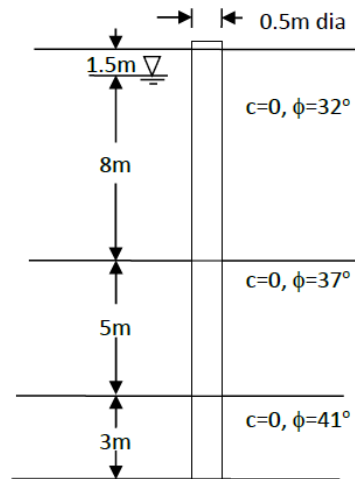

Figure 1
- 14 a) Find the uplift capacity of the reinforced cement concrete pile shown in Figure 1. Unit weight of R.C.C. may be taken as 24 kN/m^3 . (10)